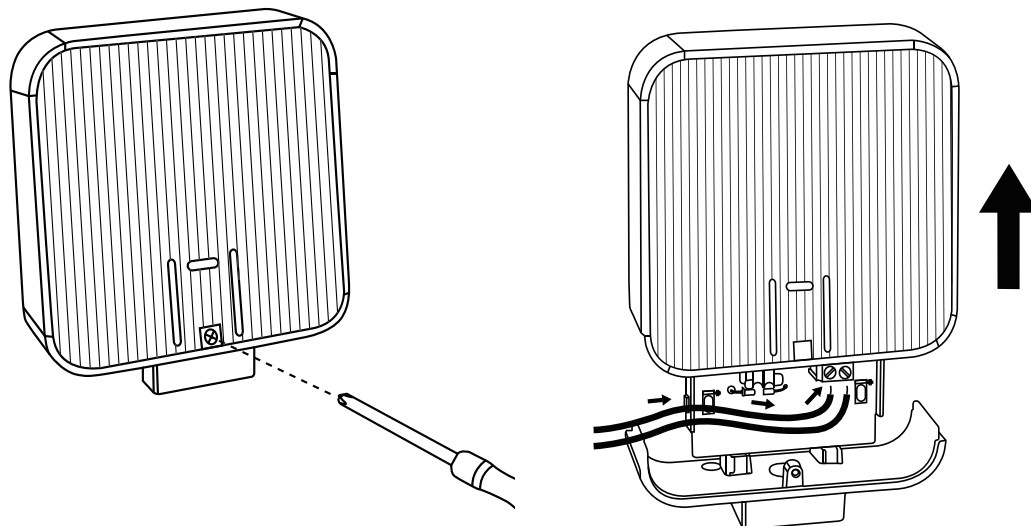

Fig 4
5. Unscrew the small screw from the yellow cover and black base, and take off the yellow cover as the direction showed Fig 4.